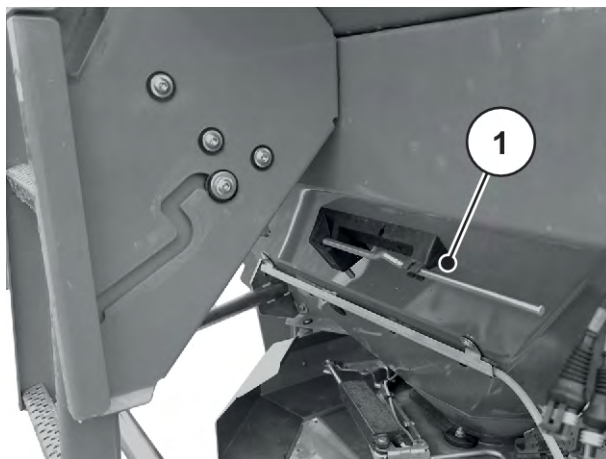

Fig. 37: Position of the adjustment lever AXIS xx.2
- ▶ Put the adjustment lever back into the designated bracket. See *Fig. 37 Position of the adjustment lever AXIS xx.2*